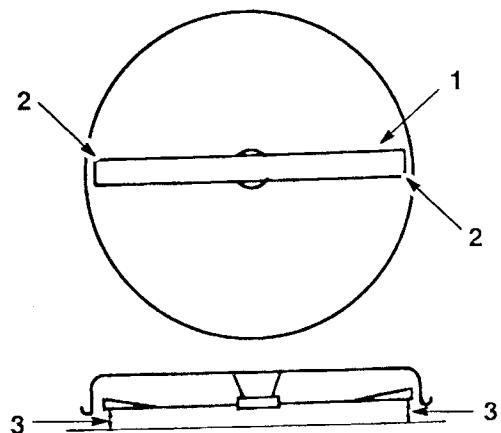

Figure 46
4. Carefully rotate blade(s) side to side (Fig. 46). Measure between the outside cutting edges and the flat surface (Fig. 46). If both measurements are not within  $3/16"$  (4.762mm), an adjustment is required; refer to steps 5 and 6.